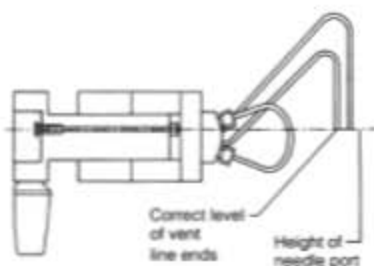

Figure 3: Correct Position of Vent Lines
- Connect the two vent tubes (supplied) to ports 5 and 6. Place the outlet ends of both at the same horizontal level as that of the needle port to avoid siphoning. See Fig. 3.